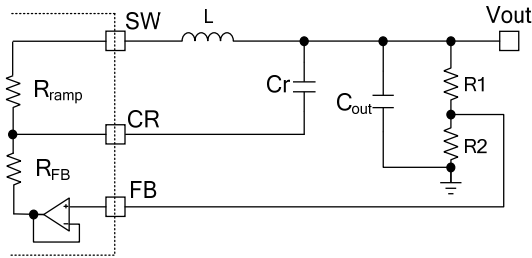

Figure 7: Simplified External Ramp Circuit in PWM Mode with Small ESR Capacitor
Figure 7 shows simplified external ramp compensation for PWM mode. Choose the external ramp (Cr) to meet the condition in Equation (7):